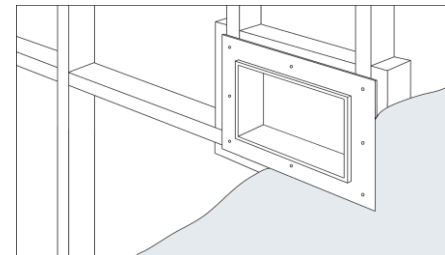

Fig. 2.
STEP 2: Install wallboard to finish flush with outside edge of the EasyNiche. (Fig 2.)